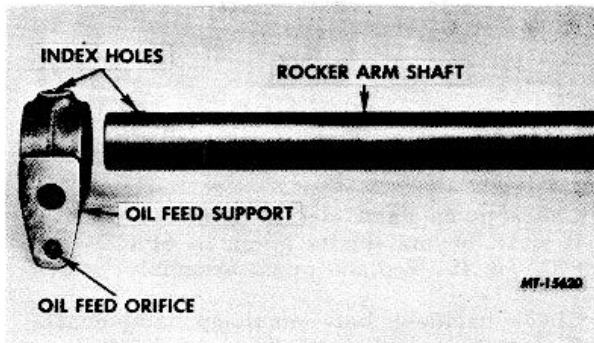

Fig. 139 Aligning Holes in Rocker Arm Shaft and Support
8. To assemble, align oil hole in oil feed support with cross hole in end of rocker arm shaft (Figure 139). Then press oil feed support on shaft, indexing oil holes.